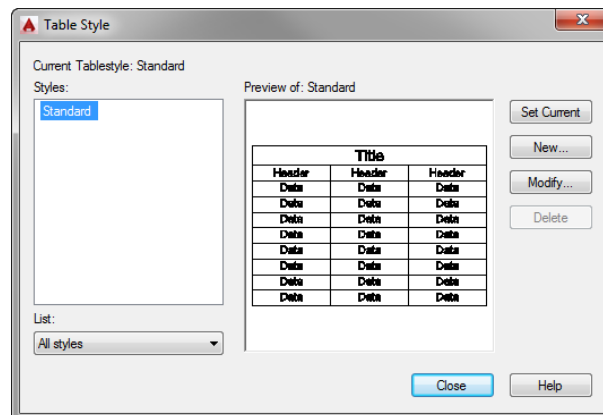

FIGURE 9.58: The Table Style dialog box
3. Click the Annotate tab. Then click the small arrow in the Tables panel's title bar to open the Table Style dialog box (see Figure 9.58).